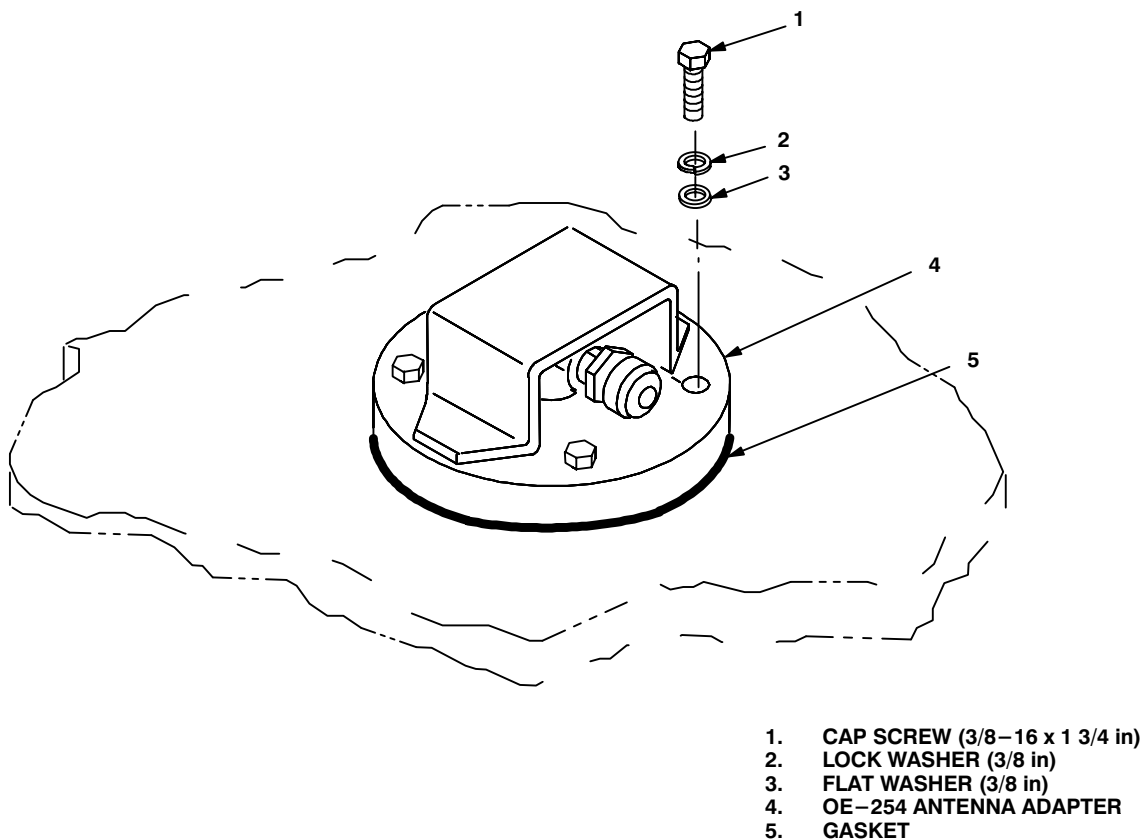

Figure 5-4. OE-254 Antenna Adapter Installation
b. Gasket (5).	Apply a thin coat of silicone compound to both sides. Place on port and align mounting holes. See figure 5-4.
c. OE-254 antenna adapter (4).	Place on top of gasket (5) and port. Align holes with mounting holes.
d. Four cap screws (1), four lock washers (2) and four flat washers (3).	Install and secure.	Tools: 9/16 in socket.